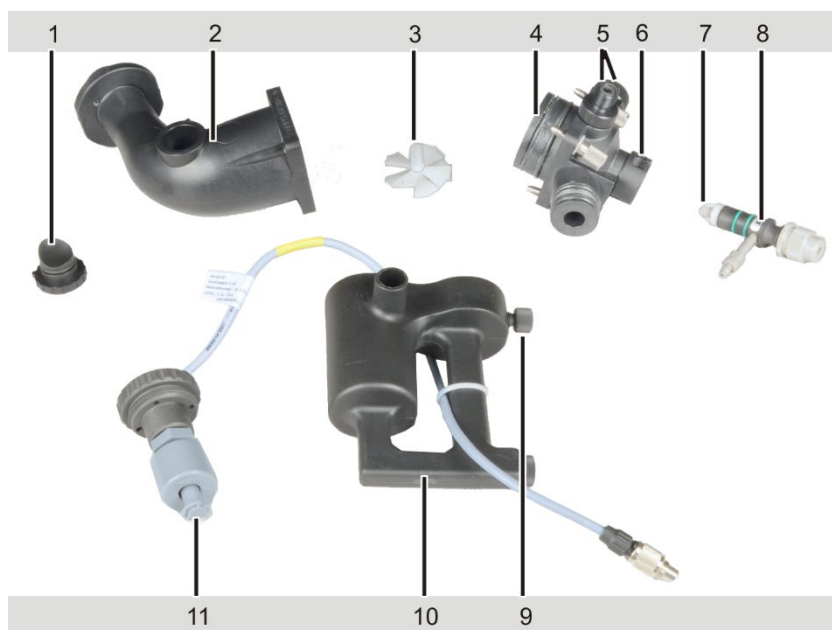

Fig. 59 Remove and disassemble the burner-nebulizer system
6. Loosen the knurled head screw of the siphon (9 in Fig. 59 p. 89) and pull the siphon down.
8. Unscrew the insert of the siphon sensor, remove the sensor from the siphon (11 in Fig. 59).
10. Withdraw the safety plug (1 in Fig. 59) from the mixing chamber.
12. Remove the impeller (3 in Fig. 59) from the chamber tube.
1. Turn the baffle ball (7 in Fig. 59 p. 89) slightly and pull it off the nebulizer. If the baffle ball is seized, immerse the nebulizer in an ultrasonic bath with ultrapure water for a few minutes.
4. Screw the siphon sensor (11 in Fig. 59 p. 89) in the siphon. Stick the siphon on the chamber head, align the sides so that they are flush and fasten with knurled head screw (9 in Fig. 59).
5. Attach the safety plug (1 in Fig. 59) on the chamber tube.
6. Screw the connections for fuel gas and additional oxidant (5 in Fig. 59) with the sealing rings into the mixing chamber head.
7. Stick the nebulizer (8 in Fig. 59) into the chamber head and fasten using the locking ring. **Note:** If the nebulizer cannot be stuck easily into the chamber head, slightly grease the sealing rings with the lubricant supplied (Apiezon grease).